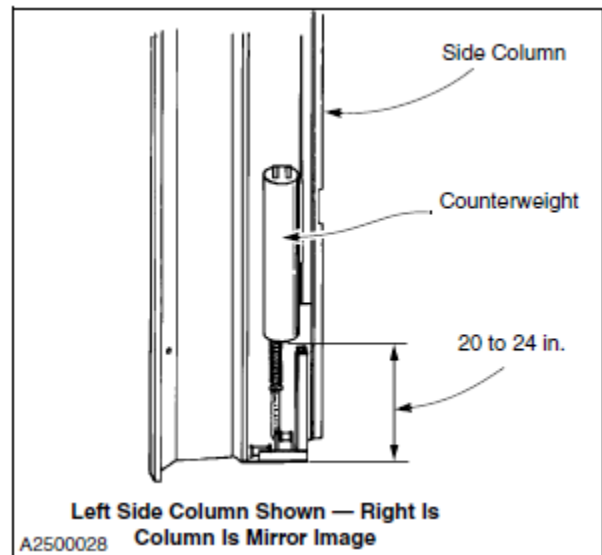

Figure 54
4. Securely support the counterweight at the position shown in Figure 54.
5. Adjust the length of the counterweight strap as required to achieve the position shown in Figure 54
6. Remove the support from the counterweight and allow it to hang free. If required, readjust strap to position the counterweight as shown in Figure 54.